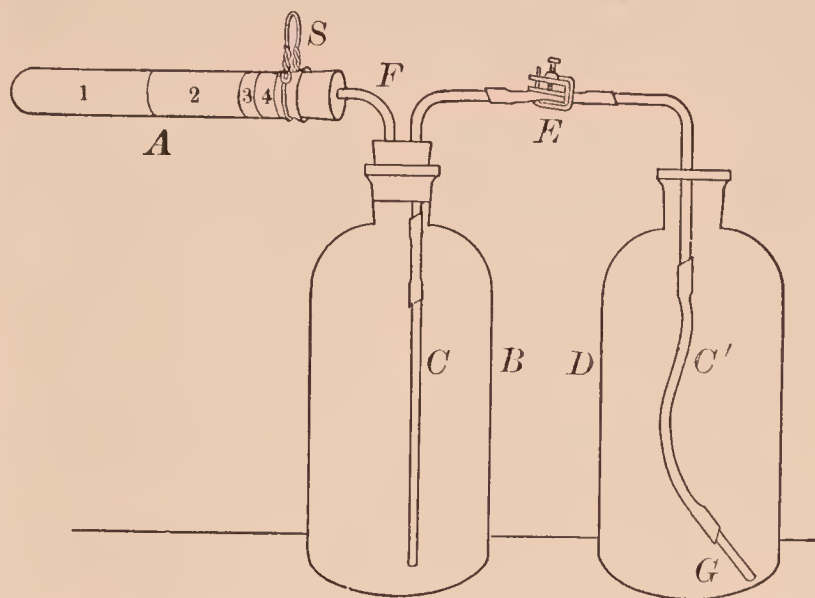

FIG. 53. — Apparatus for finding the weight of 22.4 liters of oxygen
**APPARATUS.** — As in Fig. 53. *A* is a test tube attached to the bent tube *F* by a rubber stopper. *B* is a large bottle (2500 cc.) to be filled with water; it is provided with a two-hole rubber stopper, through which pass *F* and *C*, the latter being connected with a rubber tube *C'* to which is attached the short glass tube *G*. A Hofmann screw is attached to the rubber tube at the point *E*. Another bottle (2500 cc.) *D* serves to catch the water forced over from *B* through *CC'* by the oxygen generated in *A*. The hook *S* of aluminum wire permits *A* to be hung from the balance beam in weighing. Thermometer, barometer, balance, scales, weights.
chlorate (Fig. 53). Push glass wool, or asbestos (the latter should be previously ignited to a red heat), into the space 2 in *A*. Put small lumps of calcium chloride into 3 and glass wool into 4. Push the stopper well into the test tube. Wipe *A* with soft paper. Weigh *AF* accurately on the balance and enter the weight in the proper place in the RECORD. Weigh the empty, dry, clean bottle *D* to a decigram on the scales, and enter the weight.